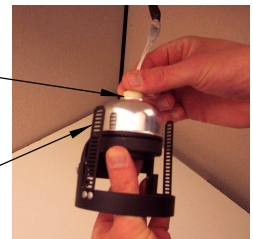

Fig.3
2.) Attach LAMPHOLDER ASSEMBLY to bi-pin prongs on MR-16 HID LAMP. *Fig. 3*